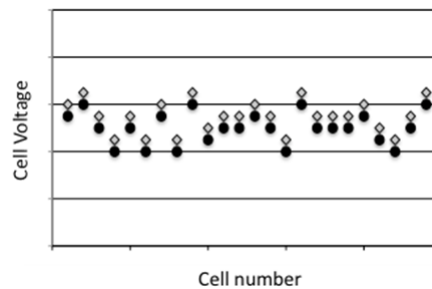

Figure 5. Cell voltage adjustment due to Connector resistances
- Connector Drop - Some manufacturers will calculate ratings which will include the expected voltage drop associated with the common connectors that will be used. If the rating does not include the connector drop, the cell voltages must be collected at the terminals of each cell and not at the connector midpoints. The string voltage is thus the summation of the individual cell voltages. Note that the string voltage as measured at the positive and negative leads to the entire battery cannot be used for determination of meeting a capacity test, unless the individual connector voltage drops are added back into the overall string voltage. See Figure 5.